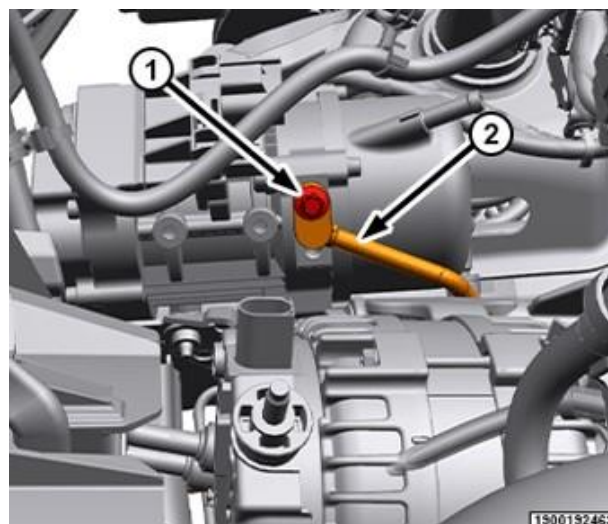

Figure B10 – EHPS Pump Pressure Pipe
21. Remove the EHPS pump pressure pipe bolt and remove the pressure pipe from the EHPS pump (Figure B10).